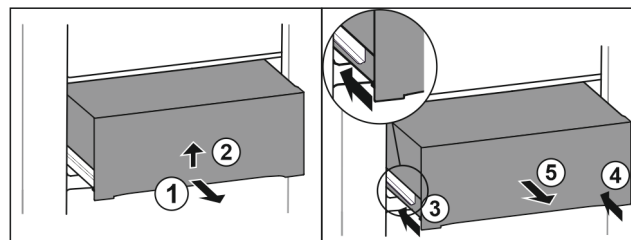

Fig. 41
- ▶ Pull out the drawer halfway. Fig. 41 (1)
- ▶ Lift the drawer from the bottom. Fig. 41 (2)
- ▶ Slide in left rail. *Fig. 41 (3)*
- ▶ Slide in right rail. *Fig. 41 (4)*
- ▶ Remove drawer to the front. *Fig. 41 (5)*